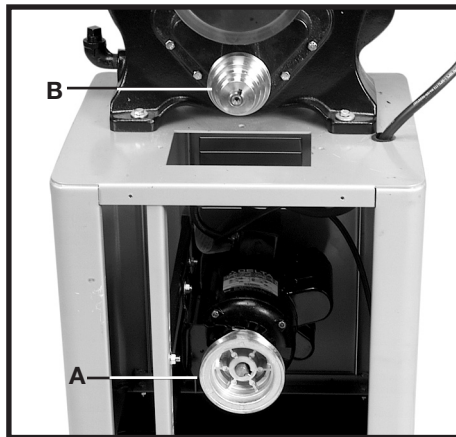

Fig. 8
Both the motor pulley (A) Fig. 8, and the gearbox pulley (B) are four-step pulleys and should always be attached inverted to each other. Check to see if the gear box pulley (B) is attached with the largest step of the pulley in the "in" or "out" position. In this case, the largest step of the gear box pulley (B) is in the "in" position. Attach the motor pulley (A) to the motor shaft with the largest step of the motor pulley in the "out" position.